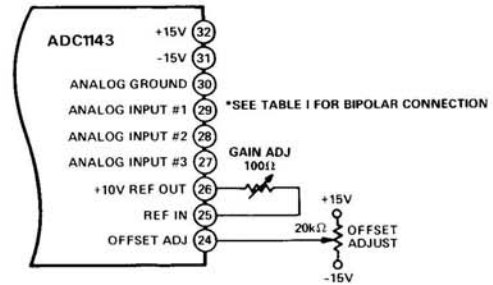

Figure 3. Offset and Gain Calibration
See Figure 3 for proper connections.
For operation, the only connections to the ADC1143 that are necessary are the power supplies, internal or external reference, input voltage pin programming, convert command and digital output. Refer to Table I for input pin programming and Figure 3 for offset and gain calibration.
Initial offset and gain errors can be adjusted to zero by potentiometers as shown in Figure 3. Proper offset and gain calibration requires great care and the use of extremely sensitive and accurate reference instruments. The voltage reference used as a signal source must be very stable and have the capability of being set within $\pm 1\mu V$ of the desired value. The potentiometers should be good quality cermet type. Multiturn potentiometers having ten to fifteen turns and $\pm 100\text{ppm}/^\circ\text{C}$ temperature coefficients will be adequate. The temperature coefficient contribution will be less than $\pm 0.1\text{ppm}/^\circ\text{C}$.
*If internal reference is used, Pins 25 and 26 must be connected together through a 100 Ω potentiometer or 49.9 Ω fixed resistor (see Figure 3 and Gain Calibration Section).